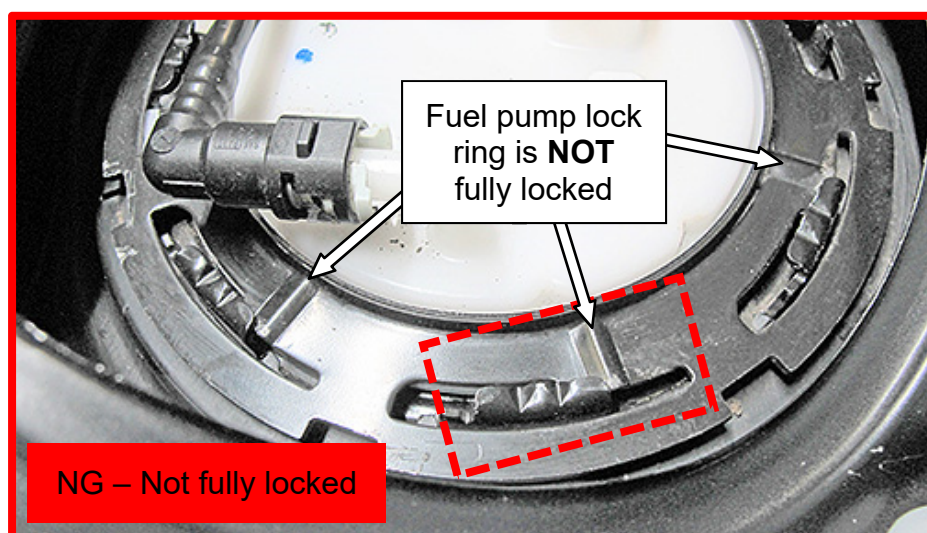

Figure 8
- If the lock ring is still engaged, but not locked as shown in Figure 8, proceed to step 8 on page 6.